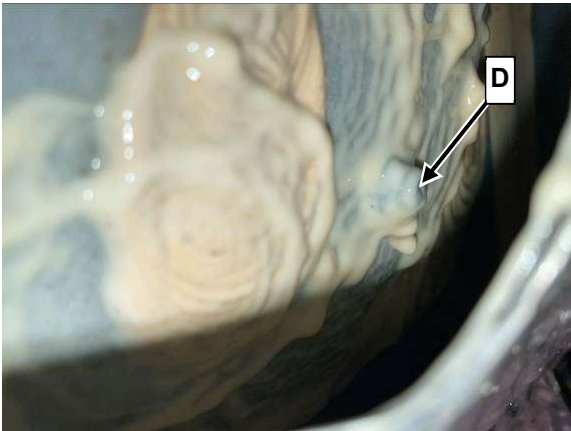

Figure 9 (rivet D, view from below with cavity preservation)
4. Clean the riveted area and apply **cavity preservation (A 000 986 32 01 09)** to both locations shown in **Figures 9 and 10**.